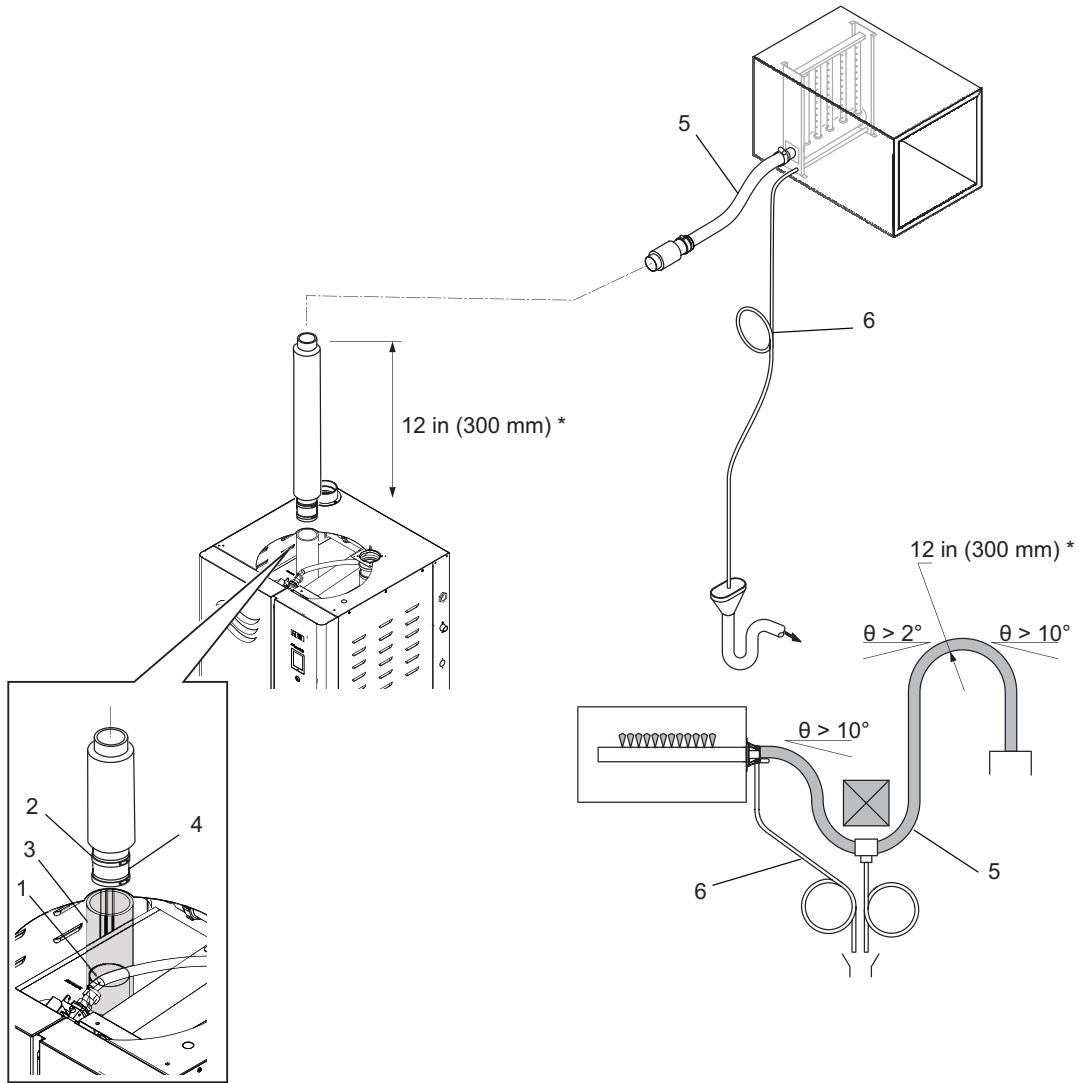
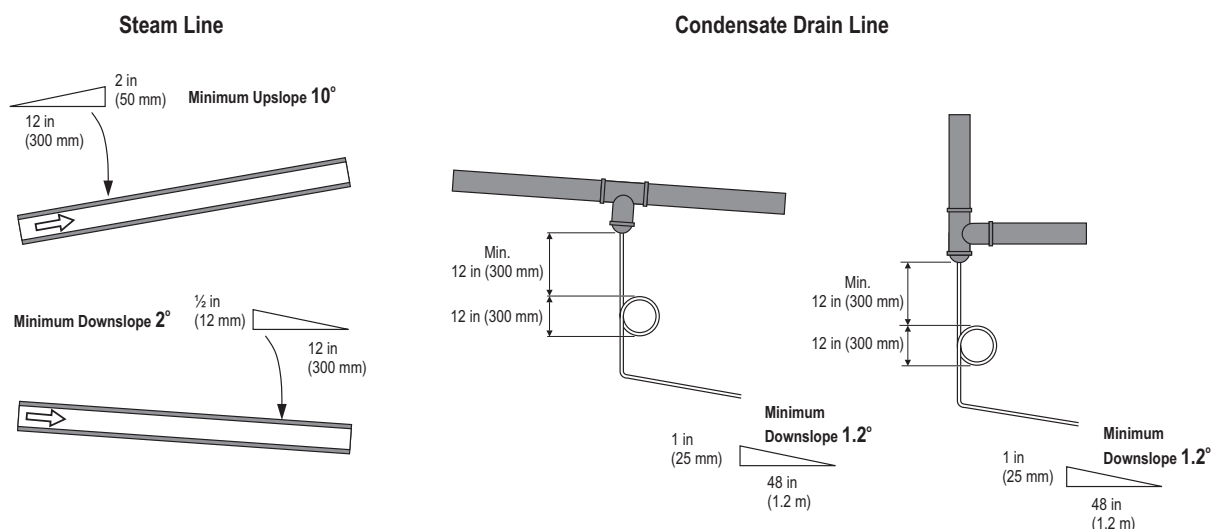

Figure 12: Main Steam Line Installation
Figure 13: Steam and Condensate Line
- The steam line from the humidifier must lead straight upwards for a minimum of 12 in (300 mm), before continuing on to the steam distribution system – refer to Figure 12 on page 26. The steam line must have a minimum upslope of 10°, or a minimum downslope of 2° to the steam distributor – refer to Figure 13 on page 28.
- Condensate traps must also be installed at all low points and at horizontal-to-vertical transitions in the steam line. The condensate drain lines should always connect to full-size "Tee" connectors in the steam line. Refer to Figure 13 on page 28.